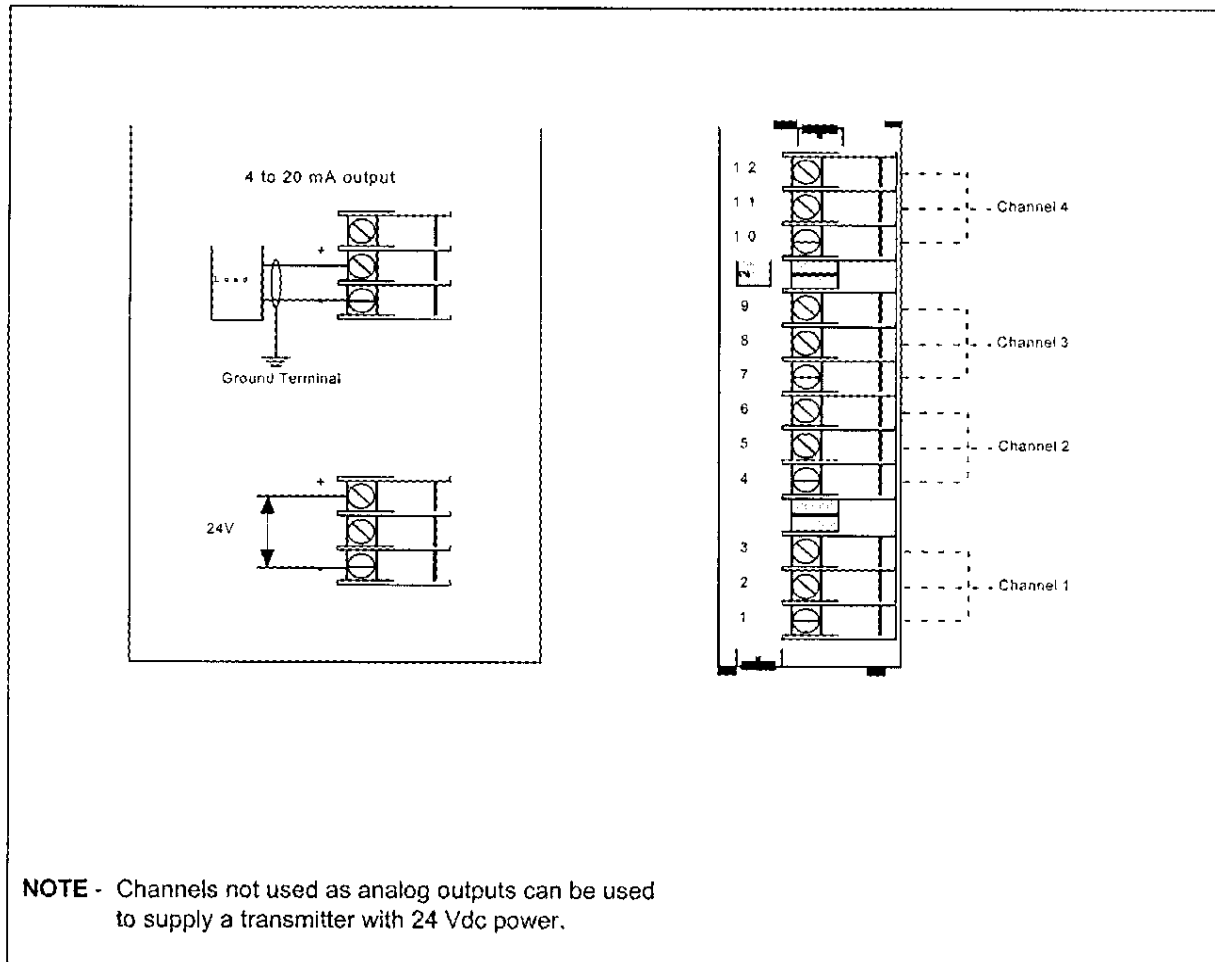

Figure 2-3 AO Board Terminal Block Connections
The Analog Output (AO) board provides four outputs at 0 to 20 mA (configurable for 4 to 20 mA or any span between 0 to 20 mA). When not used for an analog output, an output channel may be used to power a transmitter with 24 Vdc power. The video recorder will support up to two AO boards, for a total of eight outputs. Figure 2-3 shows the terminal connections for the AO board. See Section 1 for details on all I/O board specifications.